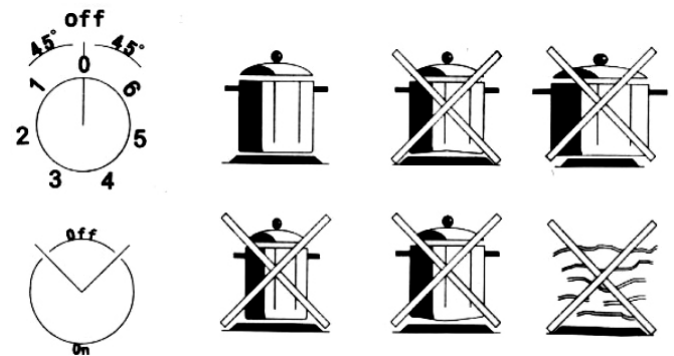

Fig. 2
- Use pots and pans with flat bottom and same diameter with the heating plates (Fig. 2)